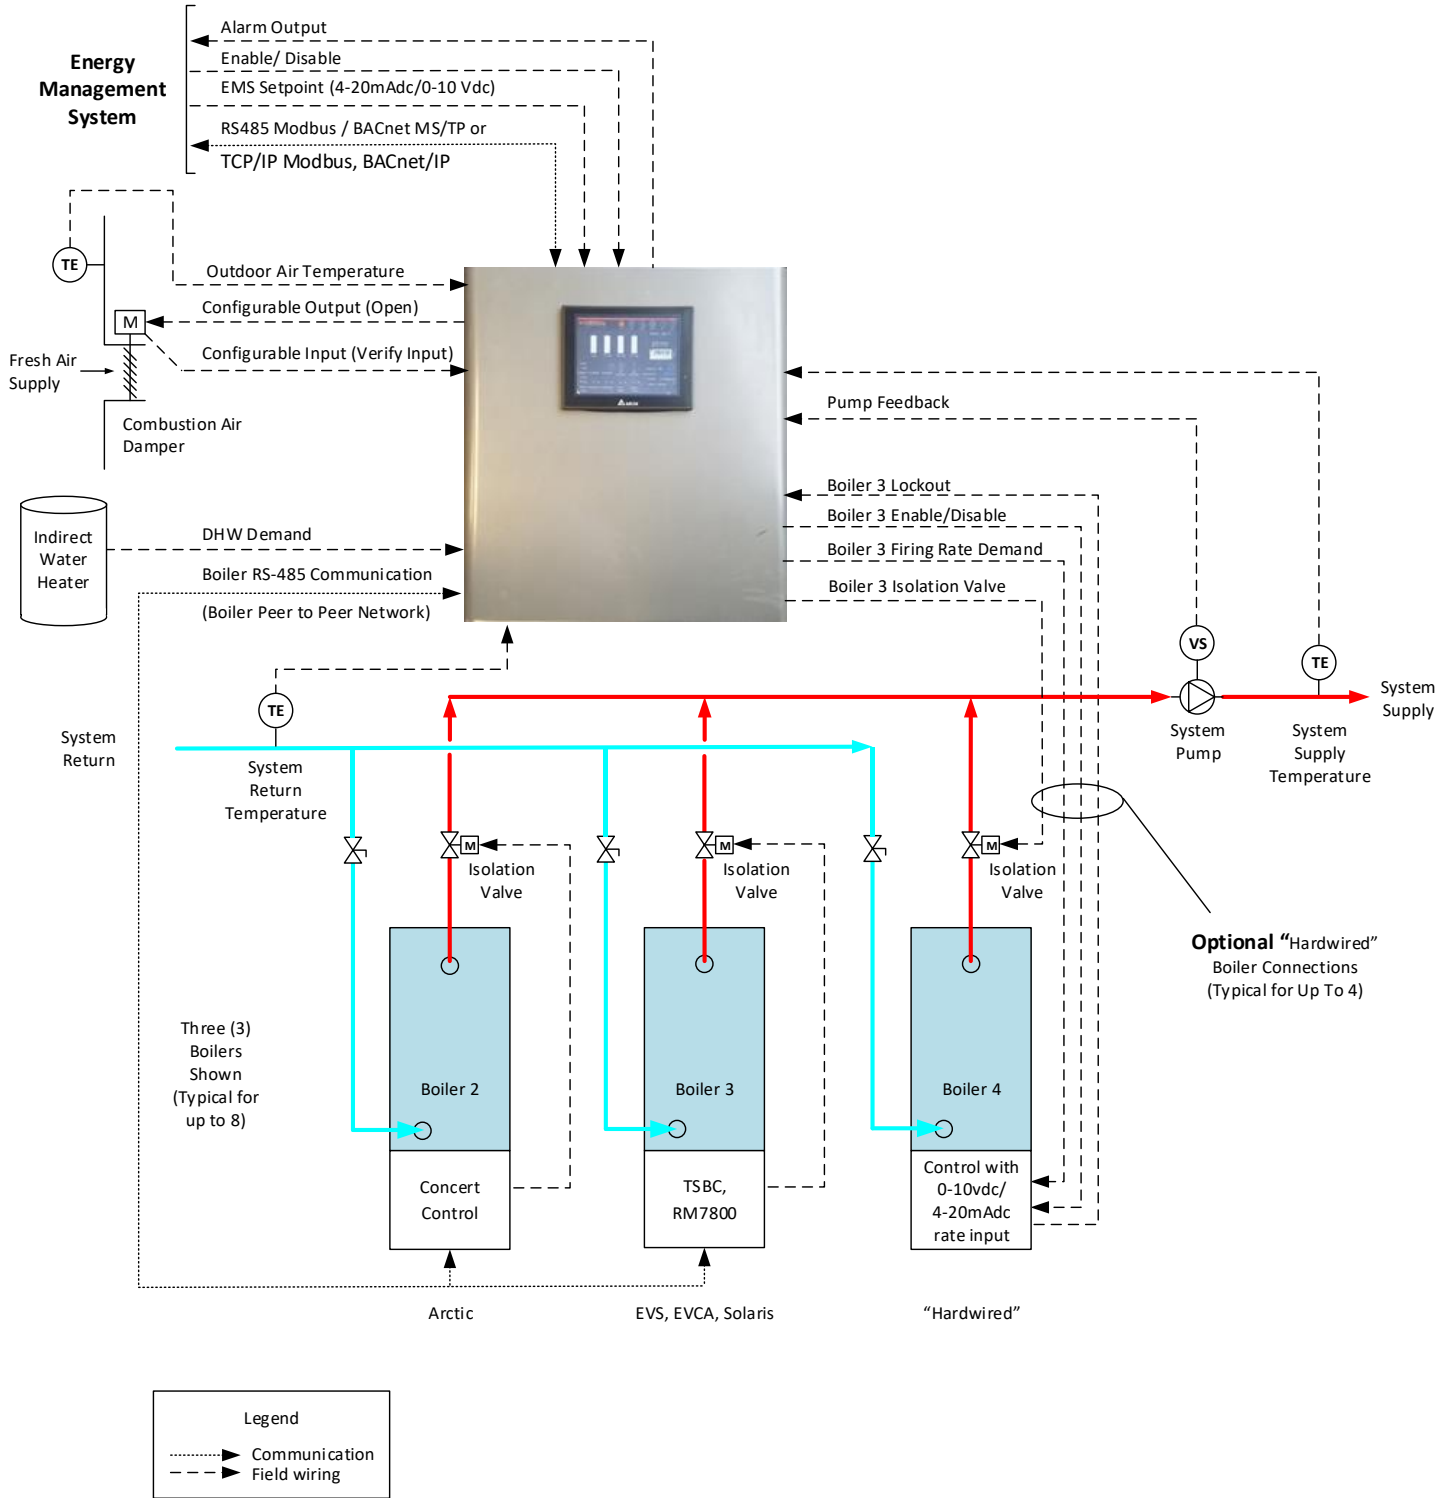

Figure 3: Conductor Hydronic Application, Variable Flow Piping
The Control has an option for four (4) isolation valve outputs. These valves are intended for use in variable flow systems (see Figure 3). These systems are not primary piped and boiler water flow is provided by system pumps. The isolation valves close when a boiler is not running to ensure system water is not